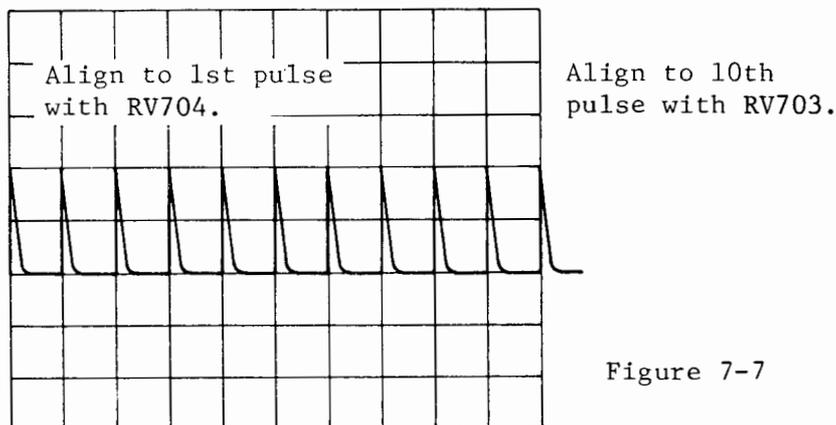

Figure 7-7
- (1) Apply to the vertical input terminal a time marker signal of 1 mS and display the waveform with an appropriate amplitude on the screen.
- (2) Set the VARIABLE knob (41) in the CAL'D position, set the TIME/DIV switch (39) at 1 mS, set the TIME/DIV switch (40) at 10  $\mu$ S, and change the DISPLAY switch (29) to the A INTEN state.
- (3) Set the dial indication of the DELAY TIME MULTI at 1.00 and align the displayed waveform with the graticule.
- (4) So adjust the DT START (Figure 7-9, RV704) that the accentuated portion of the waveform is aligned to the initial pulse as shown in Figure 7-7.
- (5) Set the dial indication of the DELAY TIME MULTI at 10.00.